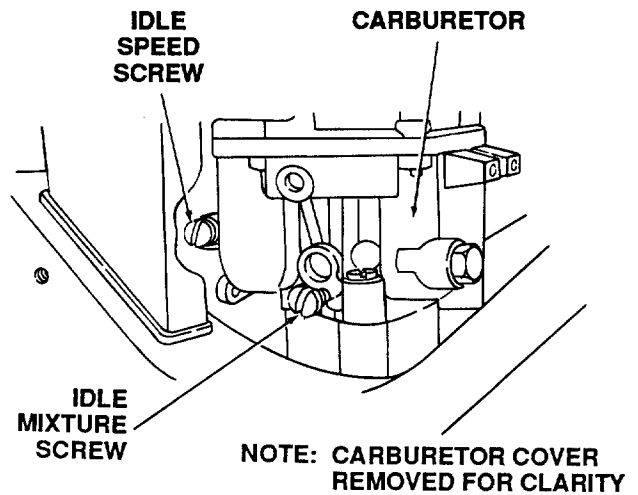

Figure 35
**INITIAL ADJUSTMENT (See Figure 35)**
**FINAL ADJUSTMENT (See Figure 35)**